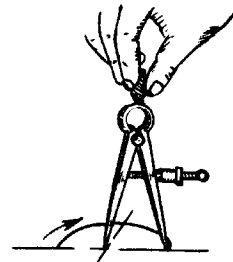

FIG. 18 SCRIBING A CIRCLE
- Place the point of the pivoting leg on the punched mark. With pressure exerted on both legs, swing in a clockwise direction and scribe the desired arc or circle. (Fig. 18).